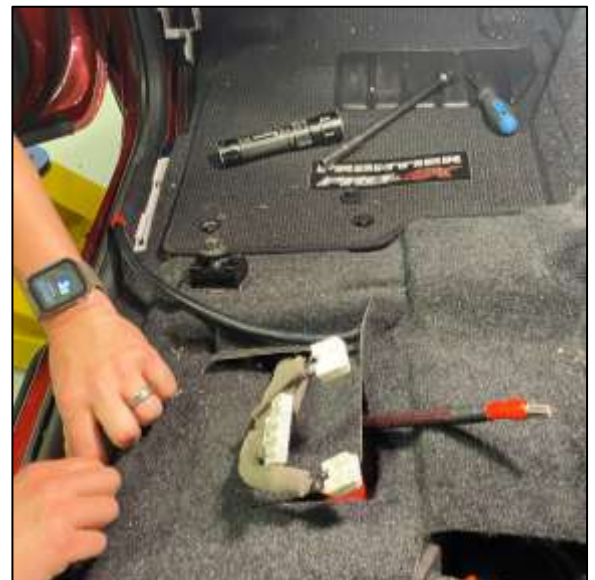

Figure 11
16. Route the Power Cable along the side of the car and under the carpet. Run it towards where the OE Amp sat. Make sure the Power Cable is not hung up on anything in the footwell and is secure against the firewall. The Amp Bracket is already installed in the image below. *Figure 11.*